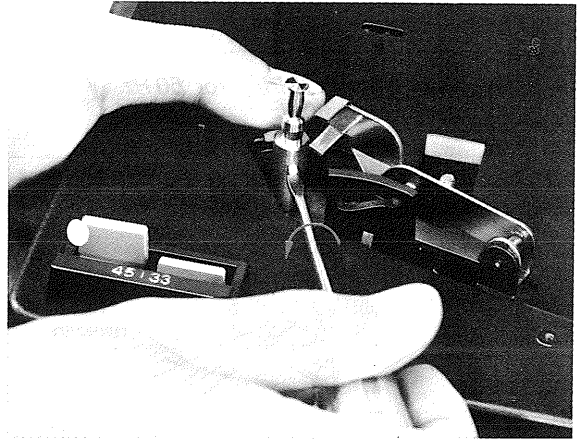

Fig. 3-2. Motor pulley removal
1. Remove the pulley by loosening the set screw securing it to the shaft with a screwdriver while pressing the motor from the bottom as shown in Fig. 3-2.